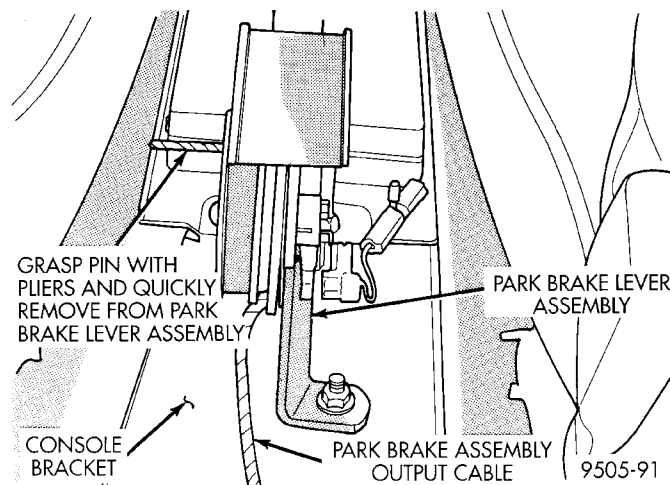

Fig. 48 Removing Lockout Pin From Park Brake Lever
(2) Pull park brake lever handle all the way up.
(3) Firmly grasp park brake lever locking pin (Fig. 48), and quickly remove it from the park brake lever